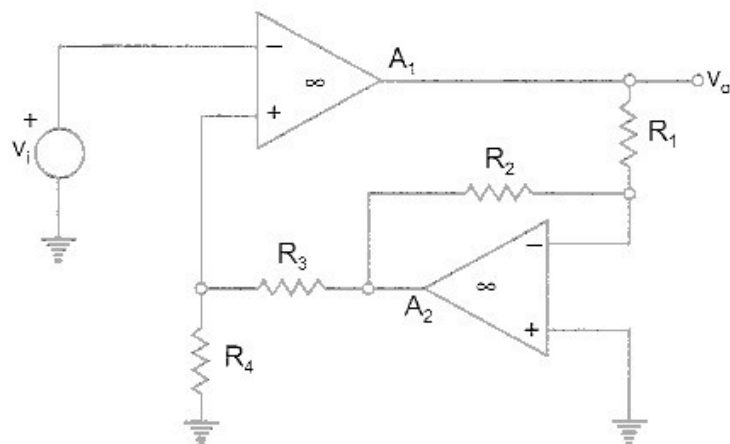

Fig. P. 2.6
2.6. For the circuit shown in Fig. P. 2.6, calculate the expression of v_o/v_i .